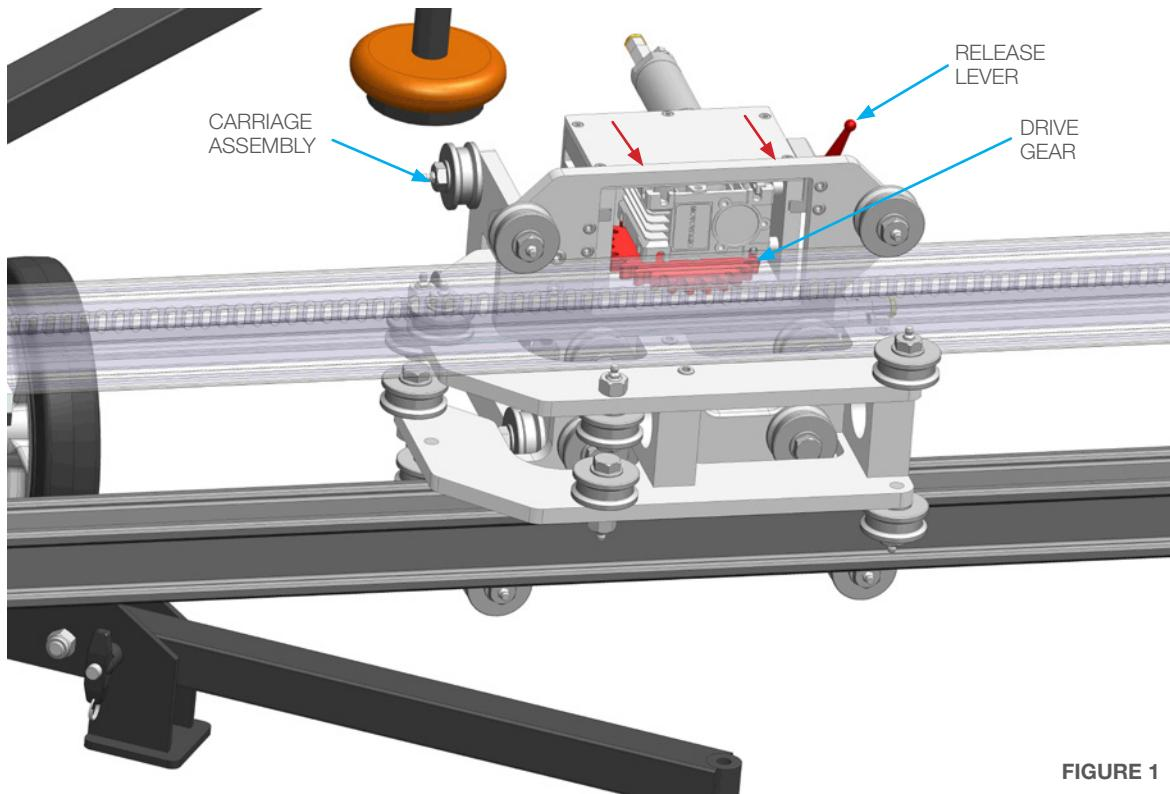

FIGURE 1
1. Slide the Carriage down the rails to about mid-way (**Figure 1**) and engage the drive gear by releasing the lever, engaging the gear into the slots and the rail, and tightening the lever.